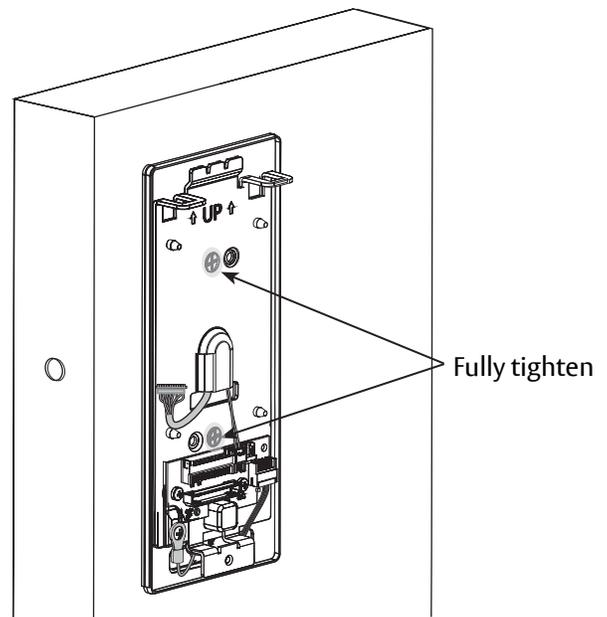

Figure 19c
Route wires around flange, do not route wires through flange hole (Figure 18c), (Figure 19c).
3. Secure mounting assembly while ensuring proper alignment of outside reader and tighten two (2) through-bolts on inside of door to secure reader (Figure 19c).